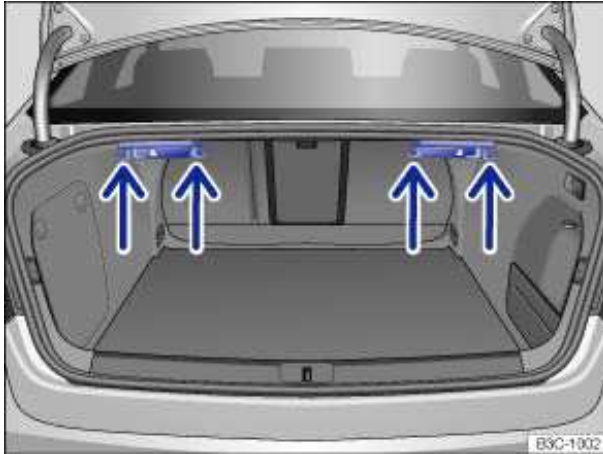

Fig. 92 In the luggage compartment: Shopping bag hooks.
- Hang the bags on the shopping bag hooks as shown in ⇒ fig. 92 (arrow).